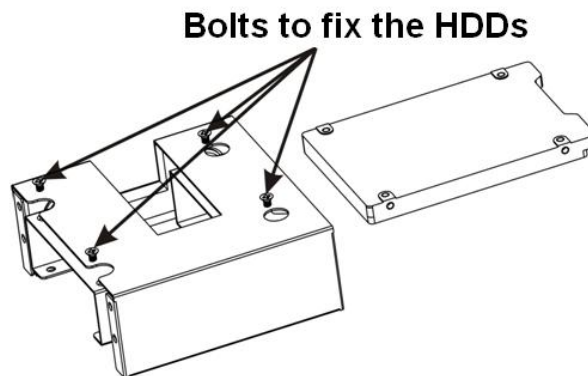

Figure 3-3
3) Take the bracket out of the box, now you can see an interface is shown as below. See Figure 3-3. Take the HDD fix bolts out of the accessories bag and insert the HDD to the HDD bracket as shown in Figure 3-3 and secure the bolts firmly.